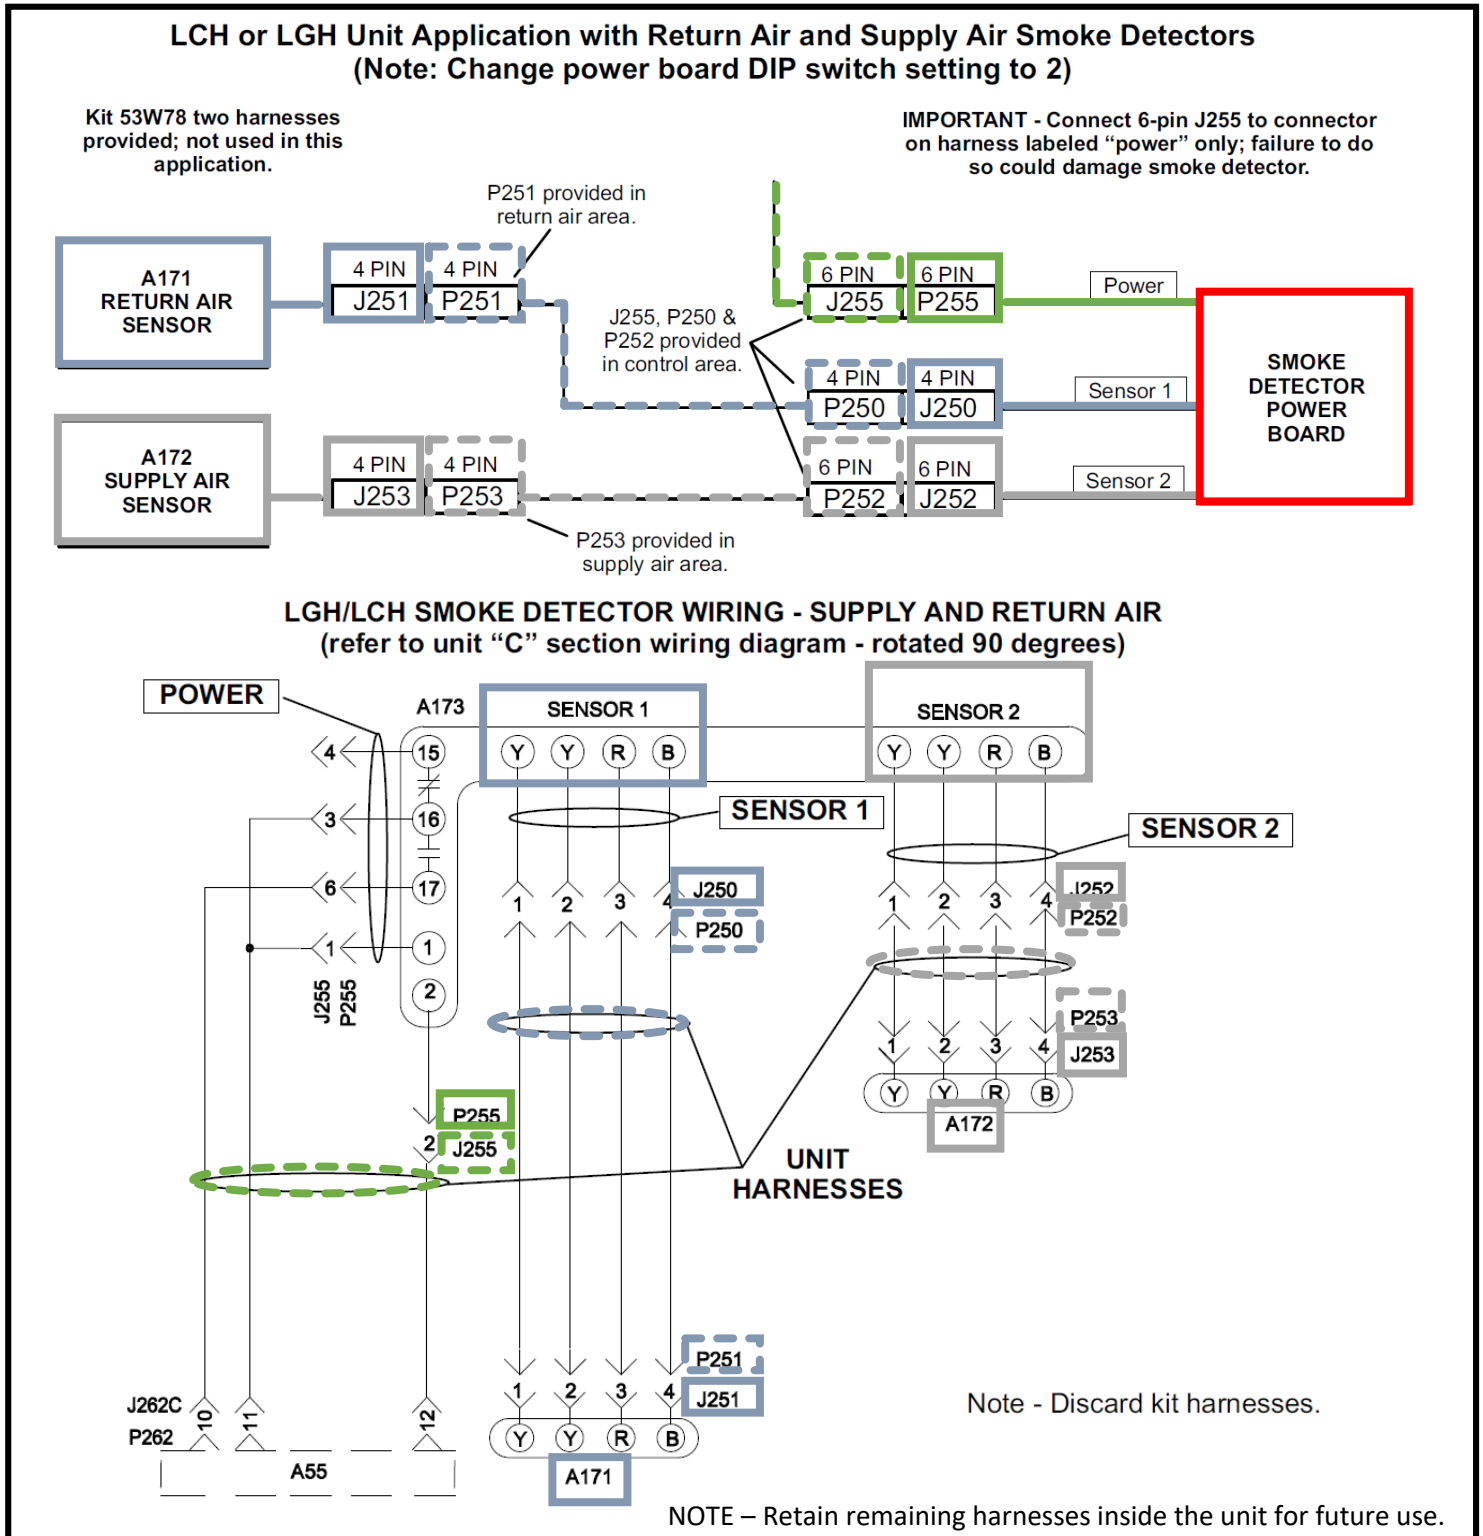

Figure 2. Wiring Diagrams from 506218
- a. Refer to the wiring diagrams in the D4P120 & D4S Smoke Detector Kits Installation Manual – 506218, or Figure 2 below, and locate the wiring harnesses for each sensor that has been installed.